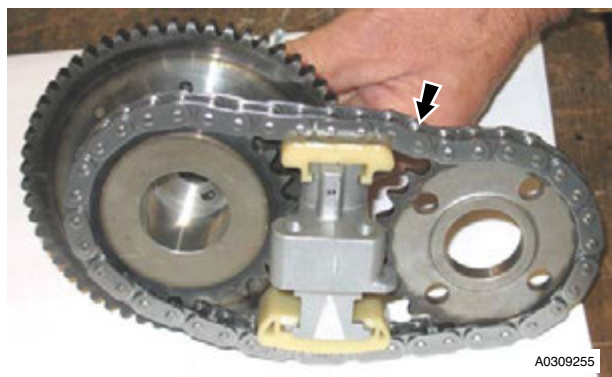

Figure 4
6. Remove the intake sprocket housing assembly from the secondary timing chain (refer to Figure 4).